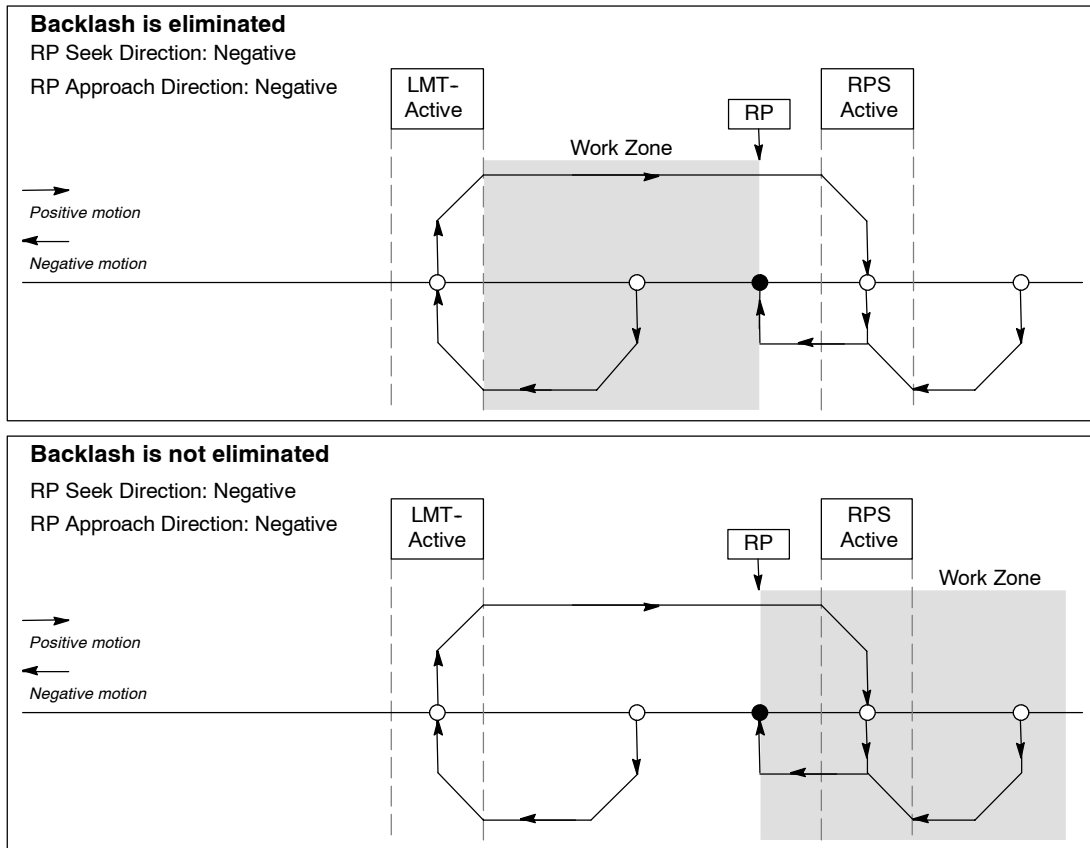

Figure 9-18 Placement of the Work Zone with and without the Elimination of Backlash
Figure 9-18 shows the work zone in relationship to the reference point (RP), the RPS Active zone, and the limit switches (LMT+ and LMT-) for an approach direction that eliminates the backlash. The second part of the illustration places the work zone so that the backlash is not eliminated. Figure 9-18 shows RP seek mode 3. A similar placement of the work zone is possible, although not recommended, for each of the search sequences for each of the other RP seek modes.